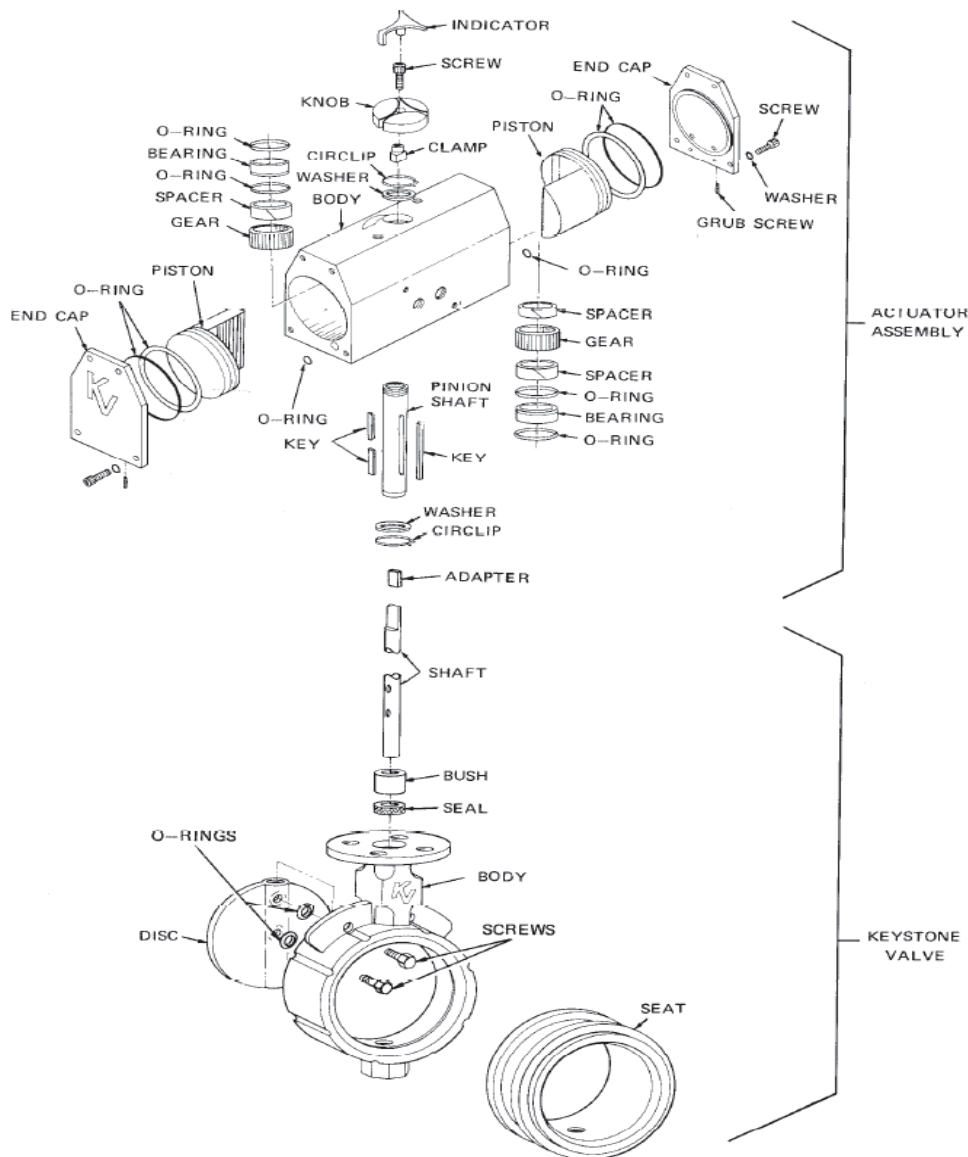

Figure 16 Keystone Valve and Actuator Assembly – Exploded View
44. Figure 16 shows an exploded view of the Keystone valve and actuator assembly. The dash mounted PUMP DISCHARGE switch incorporates an air valve, which is connected to the actuator assembly by two air lines. When in the ON position, compressed air from the primary air circuit is directed via the air valve into the actuator body, moving the actuator pistons within the cylinder. Air on the other side of the two pistons is exhausted through the opposite port. Piston movement is transferred to the pinion shaft via the two gears. The pinion shaft is coupled to the valve shaft, which controls the disc within the valve. Shaft rotation turns the valve disc, allowing water to flow through the valve.